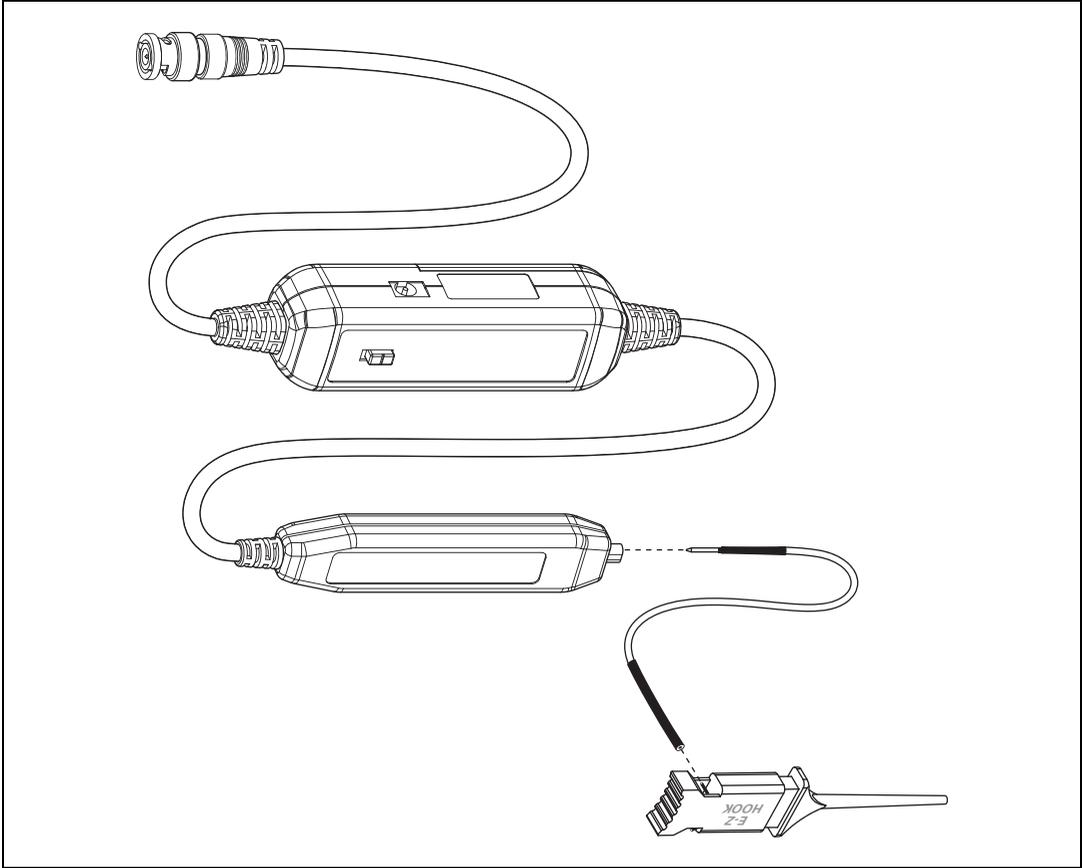

Figure 4. Connecting a Pincer Clip to the NI 5191
- Connect the pincer clip to the extension leads through a small pin located on either side of the back of the clip, as shown in Figure 4.